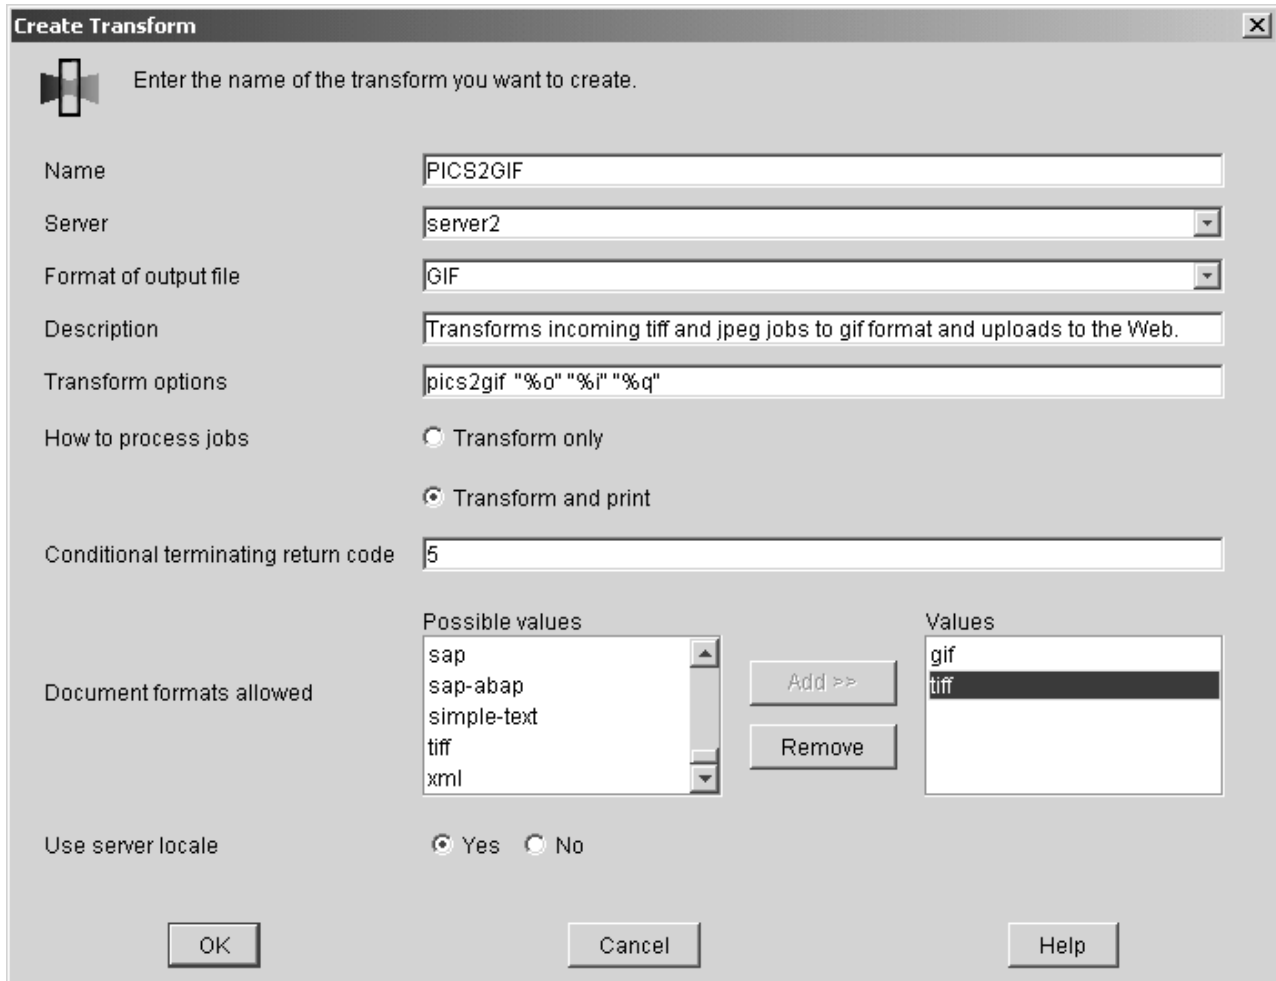

Figure 68. Create Transform dialog: Define a conditionally terminating transform
3. In the **Create Transform** dialog, fill in the fields as shown in Figure 68. These values create a transform that transforms both JPEG and TIFF input data into GIF output and then provides a return code of 5 if the transform has completed successfully without returning to InfoPrint Manager for printing.